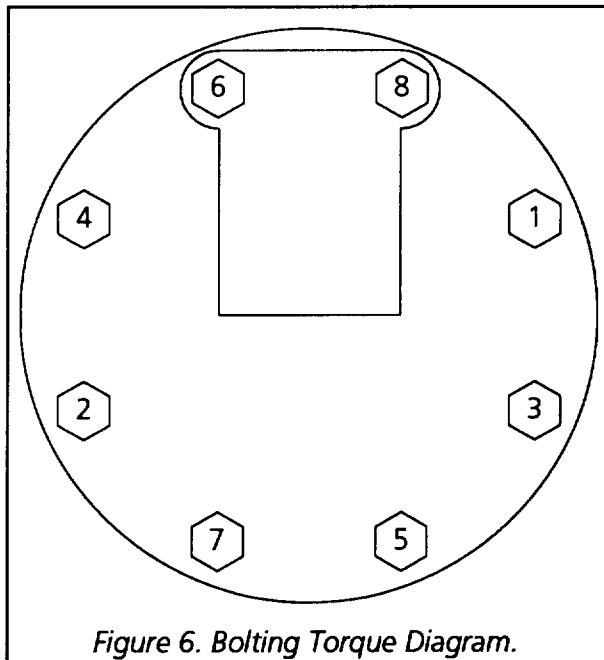

Figure 6. Bolting Torque Diagram.
6. Install diaphragm head with eight (8) bolts. Remove blade and torque bolts as follows (See Figure 6):